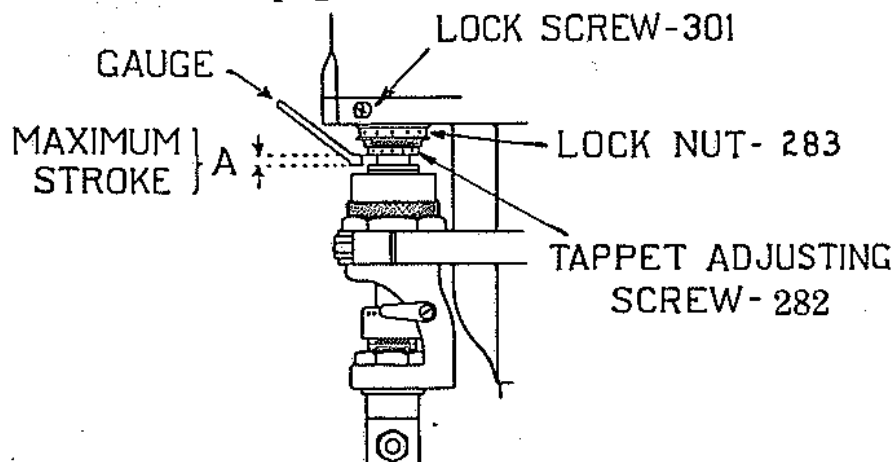

Fig. 13—Fuel Pump Stroke Adjustment.
78—Fuel Injection Pumps—The fuel pumps are separate units. Replacement can be easily made by removing the fuel pipes and two cap screws and without disturbing the adjustment of the pump stroke. The amount of stroke is set at the factory and is locked by small screw 301, shown in Fig. 13 below. To check the fuel pump stroke proceed as follows:
Place all control levers in wide open position. Bar the engine over by hand slowly until you are sure the pump plunger has reached its lowest position. The opening or distance (A), Fig. 13 is the amount of pump stroke. Use a gauge made as shown in Fig. 13 with dimension (A) corresponding to the fuel pump stroke given for the engine in the table on page 29.
The fuel pumps should be kept in good working order by oiling the plunger and tappets frequently. To do this turn the knurled casing down as shown in Fig. 13. After oiling, turn the casing up again to protect the working parts from dust and dirt. If the plunger leaks considerably, the packing should be replaced. It is also good practice to grind the fuel pump valves occasionally. If not possible to return the pumps to the factory for overhauling, proceed as follows: Remove pump from engine. Take off the hexagon caps directly over the suction and discharge valves, and remove the springs. Regrind the valves with a very fine grade of valve grinding compound, using a screw driver to rotate the valve. Clean all grinding compound and foreign matter out of the pump and barrel. Blow out with compressed air, if available, and replace packing if necessary. In reassembling the valves, be sure the small spring is replaced on the top of each valve.